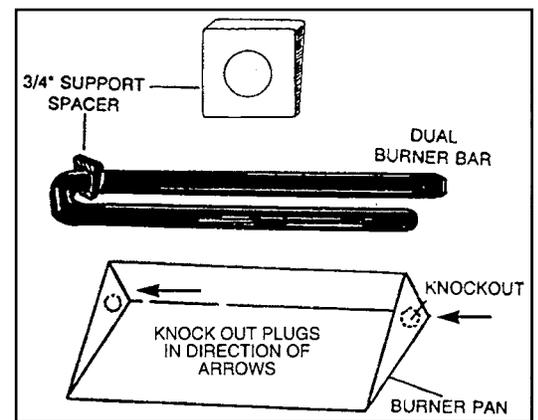

Figure 5 - Burner bar placement
C. Slide the 3/4" burner support spacer (Part #10) over the Dual Burner Bar (Part #9) and move spacer to opposite corner of the gas intake connection (See Figure 5).